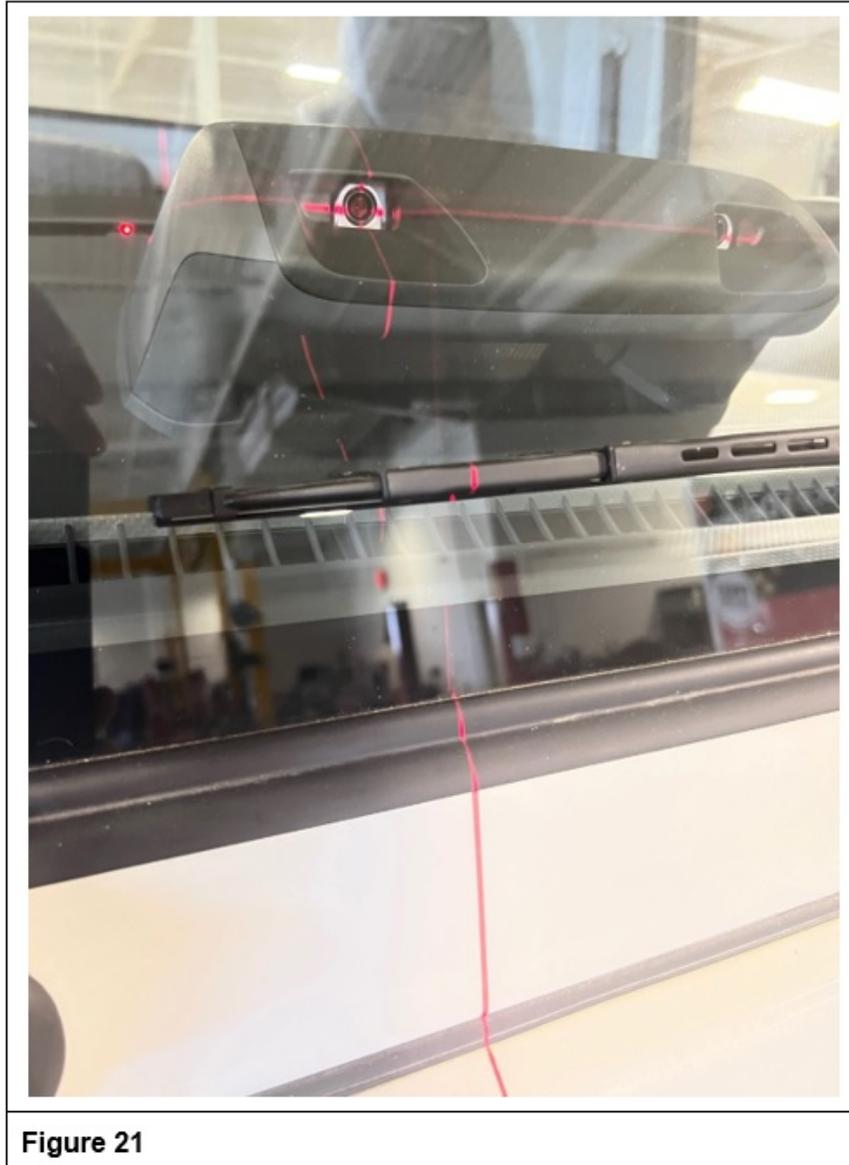

Figure 21
26. Point the Cross-Line Laser Level at the passenger side Stereo Camera lens and adjust the Laser until the passenger side lens is bisected vertically and horizontally. (See Figure 21.)
30. Ensure that the Cross-Line Laser Level is still bisecting the passenger side Stereo Camera Lens as shown in Figure 21. Adjust the laser as necessary.